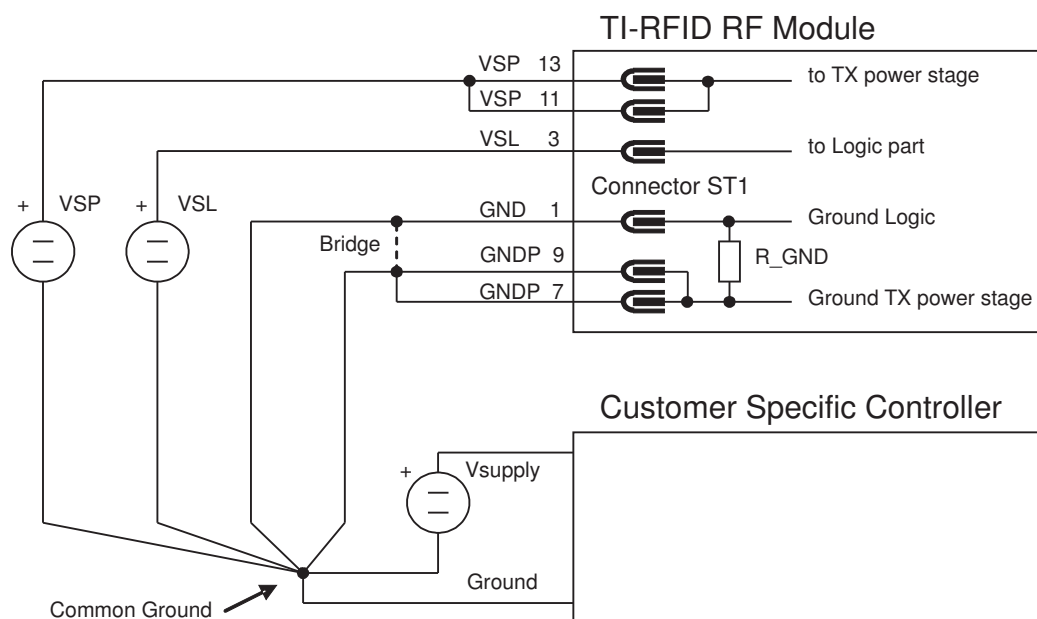

Figure 3-1. External Ground Connection (GND to GNDP)
1. A high resistivity of the GNDP pins could cause a voltage drop across these pins, due to high transmitter power stage current (this does not apply to the supply pins of the logic section). If the grounds were connected to each other internally, this would also lift the internal logic ground and cause logic level compatibility problems with the Control Module (see Figure 3-1).
2. In order to provide greater flexibility when using long supply lines. Long VSP supply lines between the RA-RFM and the Control Module cause a voltage drop across this supply line (again due to high transmitter power stage supply current). This voltage drop would also lift the logic ground and cause logic level compatibility problems with the Control Module. This can be avoided by connecting the grounds externally in any of three different ways (see also Figure 3-1) as described below:
- For cable lengths of up to 0.5 m between RA-RFM and Control Module, the RFM ground pins GND and GNDP must be connected at the Control Module, as shown in Figure 3-1. The grounds for the VSP, VSL and the Control Module supply are connected together at a common ground. Alternatively, if the voltage drop across the VSP supply line is less than 0.5 V (likely in this case), the ground pins GND and GNDP may be connected together at the RA-RFM. If the system has a TI-RFid Control Module, the RA-RFM ground pins GND and GNDP are already connected together correctly on the Control Module. When using a customer-specific controller, care must be taken to connect the RA-RFM ground pins GND and GNDP to an appropriate ground on the controller.
- Cable lengths longer than 2 m are not recommended. If the application demands cabling longer than 2 m, the logic signal connections between the RA-RFM and the Control Module should be done via a differential interface (for example RS422). Due to different ground potentials at different locations it may also be necessary to provide galvanic separation of the interface signals by, for example, opto-couplers. In this case, to avoid problems with difference voltages between GND and GNDP, these pins must always be connected directly at the RA-RFM. As shown in Figure 3-1 a shorting bridge is necessary for this purpose, situated as close as possible to the RA-RFM.